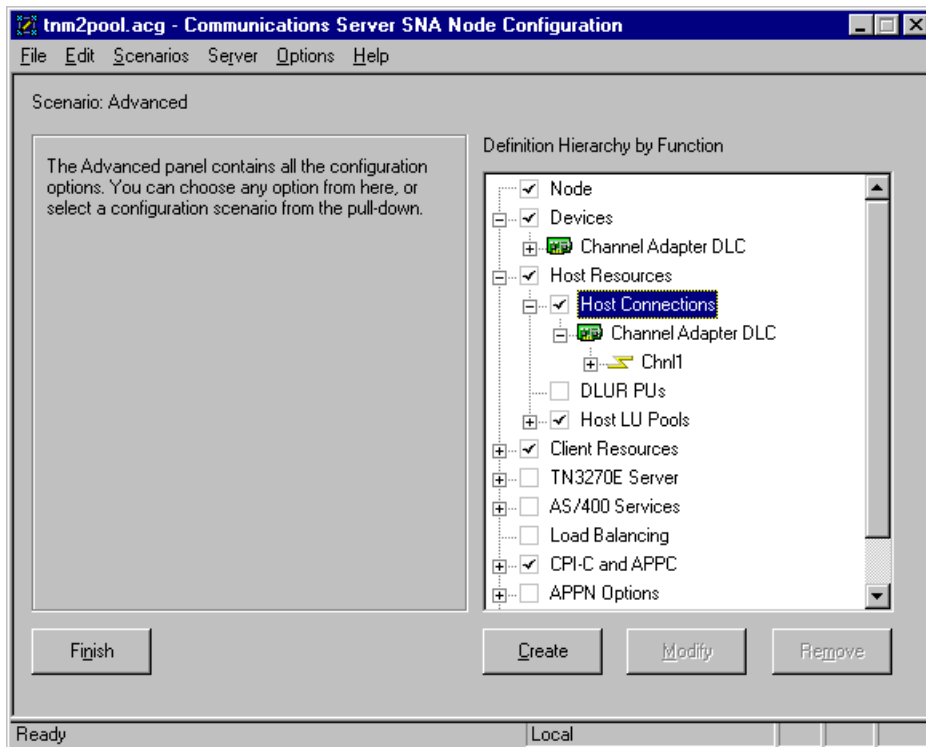

Figure 7-26. Host Links Defined
7. Verify that the connection now appears in the Host Connections hierarchy (Figure 7-26). Click the Define host connection and LUs again if you wish to define a second Host Link.